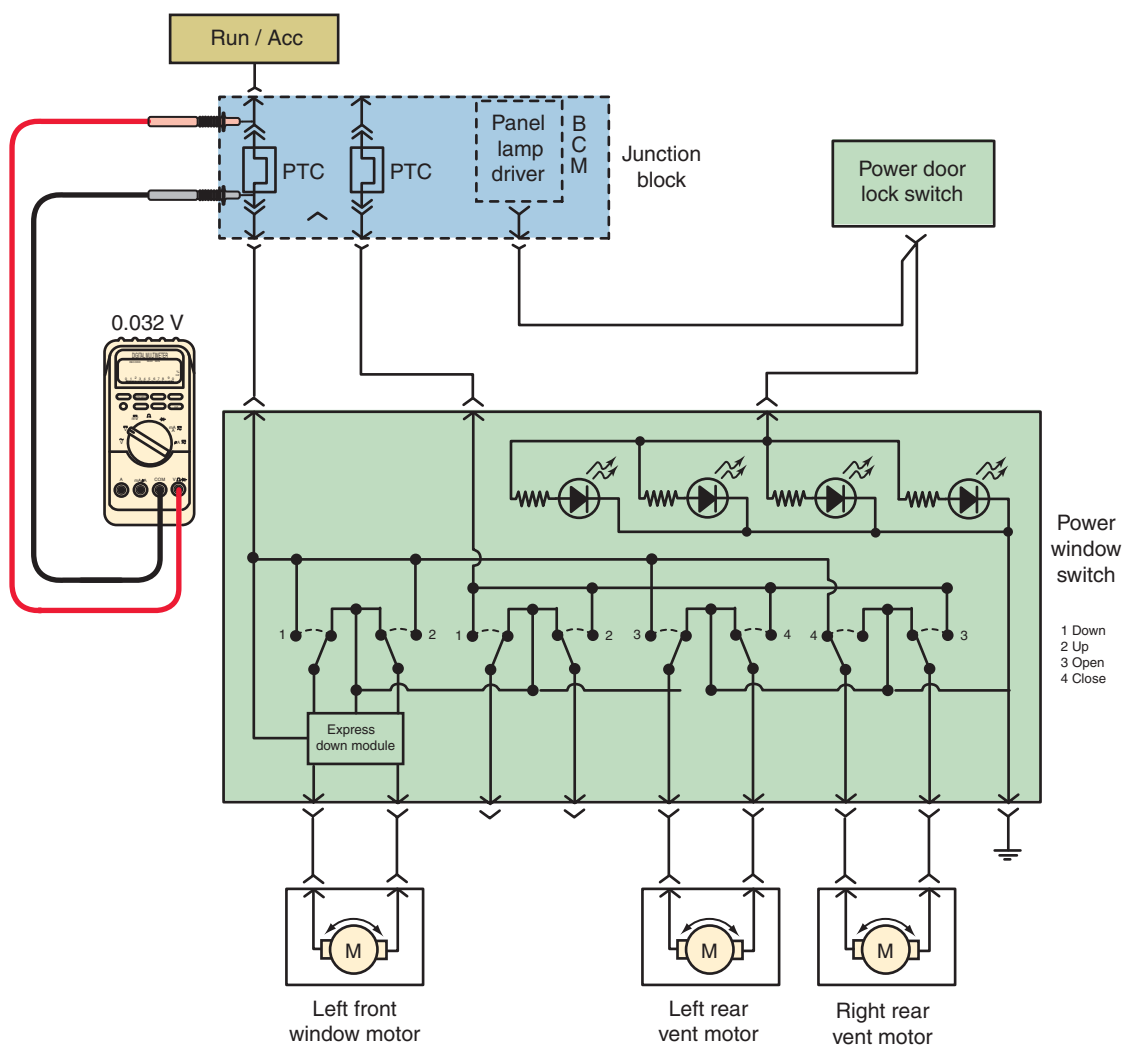

FIGURE 10-41
- The voltmeter reading illustrated in Figure 10-41 indicates: